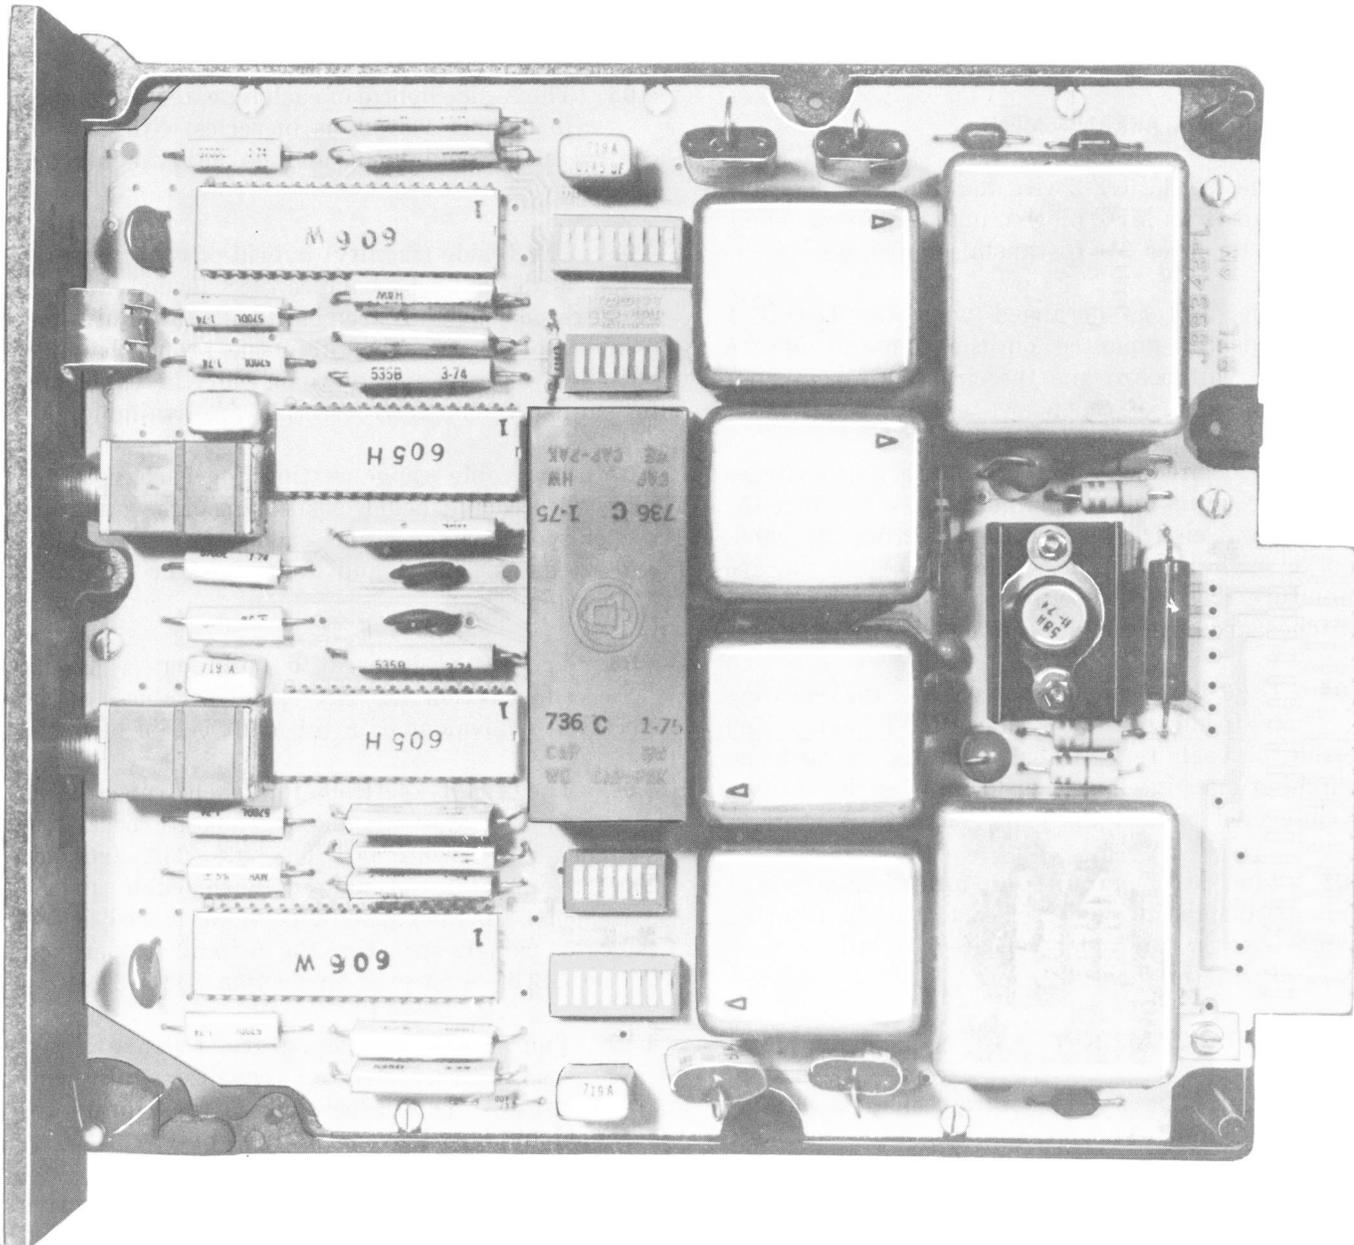

Fig. 2—Side View of J99343PL Repeater Showing LBOC and Gauge Switches
**3.03** Associated with each repeater are six switches for adjusting the line build-out capacitor (LBOC) and eight switches for selecting the cable gauge. These switches, shown in Fig. 2, are miniature rocker-type switches. Settings for these switches are covered in Section 332-912-241.